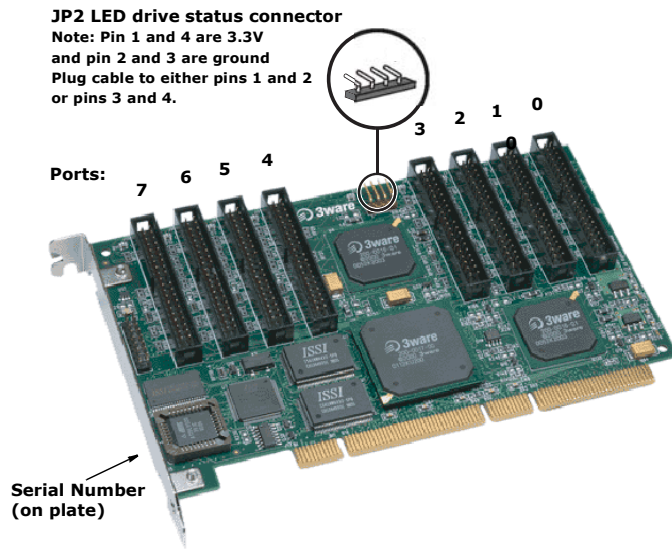

Figure 1. 8-Port Escalade 7500-8 ATA RAID Controller Layout
- 1 Connect the interface cables supplied with the product to the ATA RAID Controller. See Figure 1.